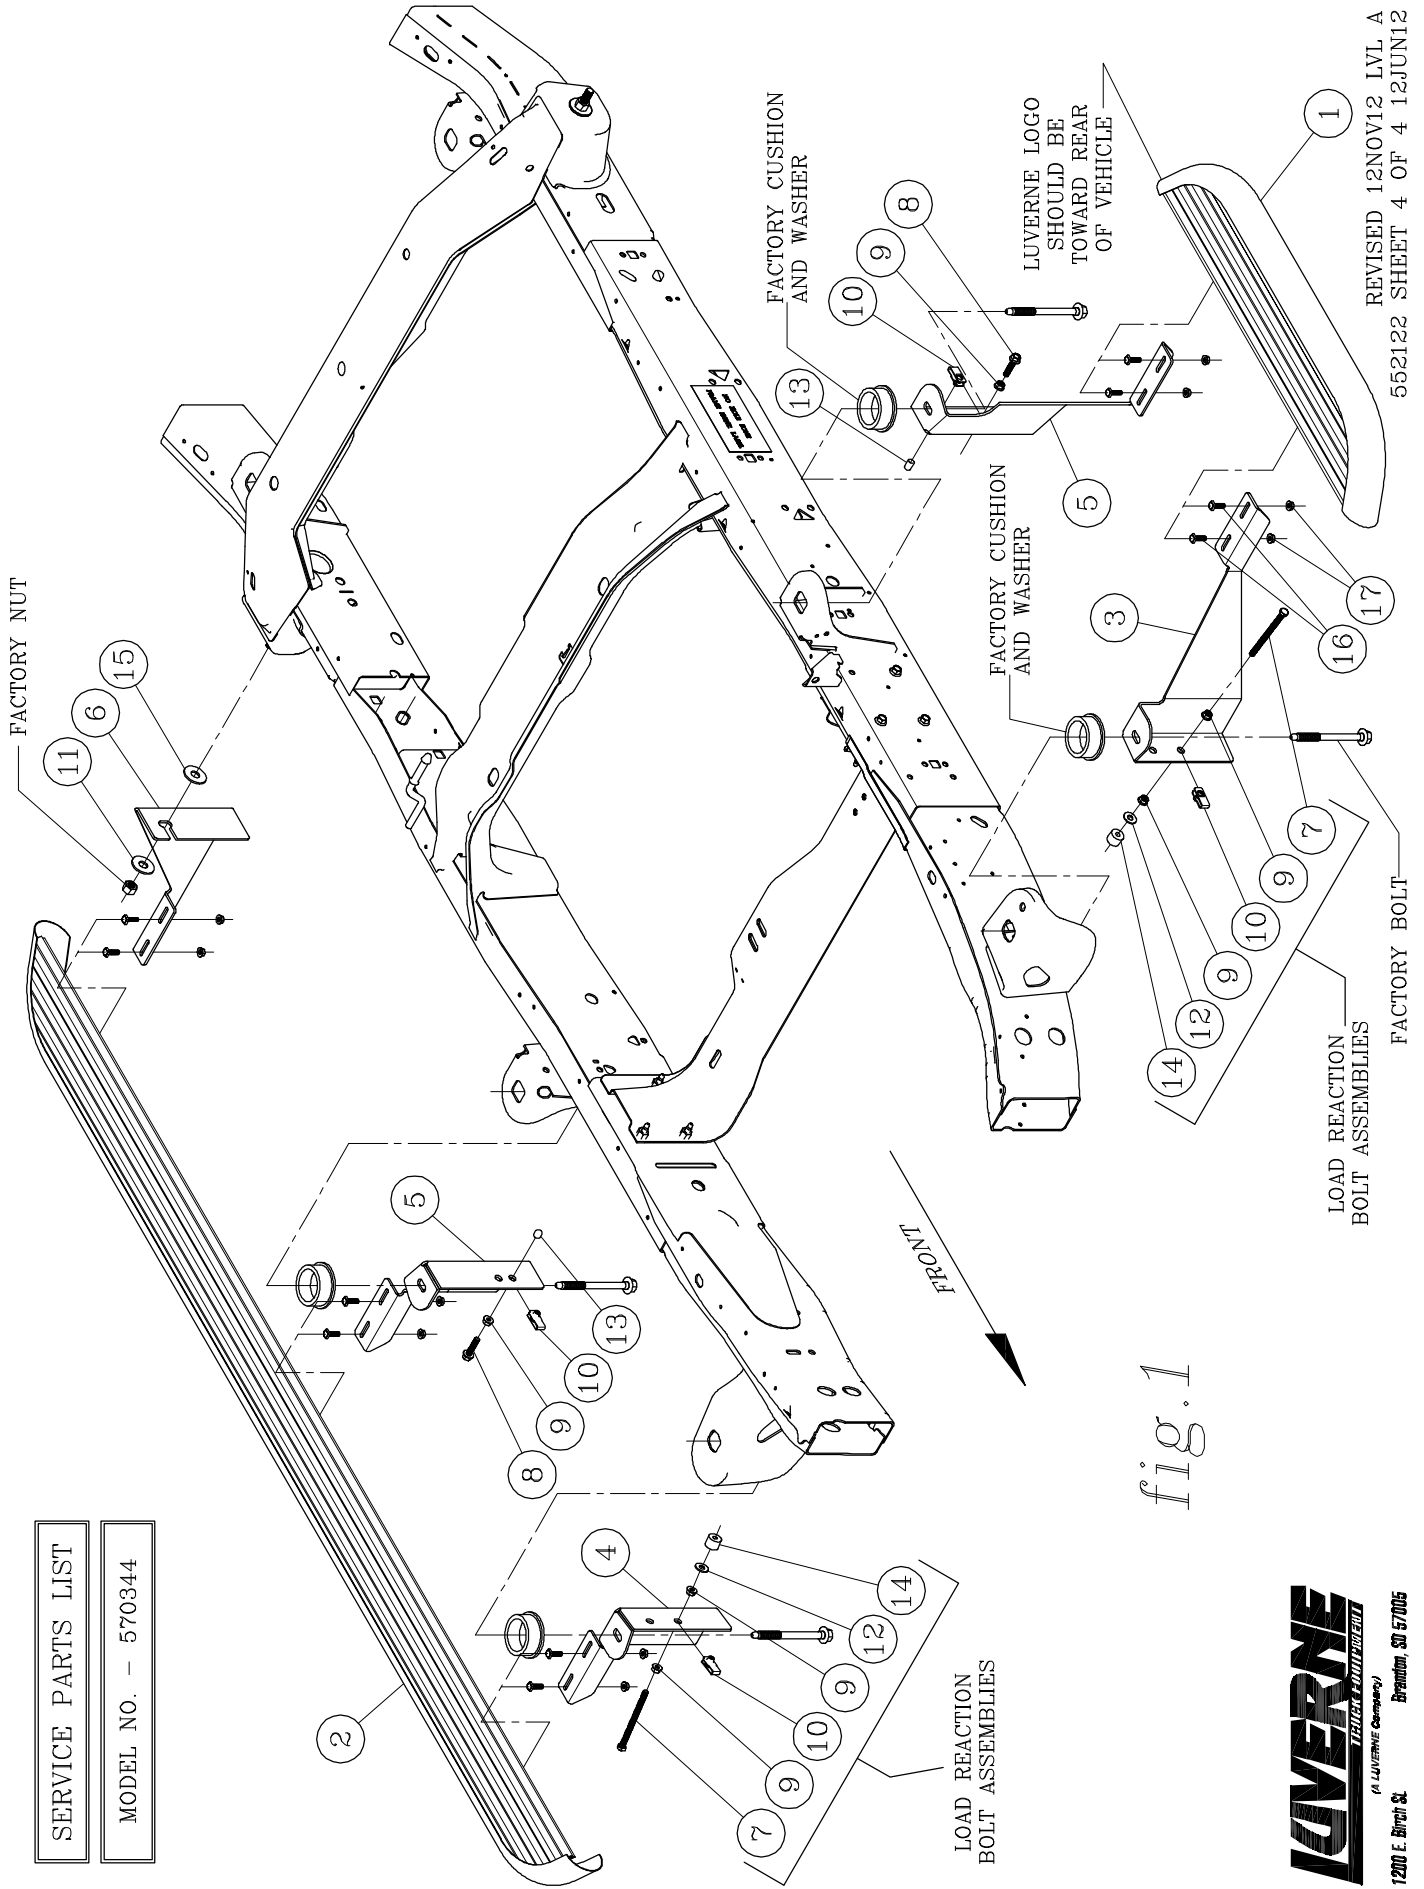

fig.1
4. INSTALL A 3/8"-16 SERRATED FLANGE NUT (ITEM #9) ON THE 3/8"-16 X 5" HEX BOLT (ITEM #7) WITH THE FLANGE FACING TOWARD THE END OF THE BOLT AND TURN ON JUST SHORT OF THE HEAD. SCREW THE BOLT INTO THE U-NUT AND WHEN IT COMES THROUGH THE OTHER SIDE START ANOTHER FLANGE NUT FACING THE AS THE FIRST NUT. TURN THE NUT ON UNTIL THERE IS 3/4" PROTRUDING FROM THE FACE OF THE NUT, INSTALL A 3/8" FLAT WASHER (ITEM #12) AND THE .354 X 1.00 X .748 RUBBER WASHER (ITEM #14) INTO THE END OF THE BOLT. ADJUST THE LOAD REACTION BOLT ASSEMBLY SO THAT THE RUBBER CUSHION IS SNUG AGAINST THE FRAME AND TIGHTEN DOWN THE OUTSIDE FLANGE NUT. **(LOAD REACTION BOLT ASSEMBLY)** AS SHOWN IN *fig. 1*.
8. INSTALL A 3/8"-16 SERRATED FLANGE NUT (ITEM #9) ON THE 3/8"-16 X 1-3/4" HEX BOLT (ITEM #8) WITH THE FLANGE FACING TOWARD THE END OF THE BOLT AND TURN ON JUST SHORT OF THE HEAD. SCREW THE BOLT INTO THE U-NUT AND WHEN IT COMES THROUGH THE OTHER SIDE ADJUST THE LOAD REACTION BOLT ASSEMBLY SO THAT THE RUBBER PLUG IS SNUG AGAINST THE FRAME AND TIGHTEN DOWN THE OUTSIDE FLANGE NUT. **(LOAD REACTION BOLT ASSEMBLY)** AS SHOWN IN *fig. 1*.
12. INSTALL A 3/8"-16 SERRATED FLANGE NUT (ITEM #9) ON THE 3/8"-16 X 5" HEX BOLT (ITEM #7) WITH THE FLANGE FACING TOWARD THE END OF THE BOLT AND TURN ON JUST SHORT OF THE HEAD. SCREW THE BOLT INTO THE U-NUT AND WHEN IT COMES THROUGH THE OTHER SIDE START ANOTHER FLANGE NUT FACING THE AS THE FIRST NUT. TURN THE NUT ON UNTIL THERE IS 3/4" PROTRUDING FROM THE FACE OF THE NUT, INSTALL A 3/8" FLAT WASHER (ITEM #12) AND THE .354 X 1.00 X .748 RUBBER WASHER (ITEM #14) INTO THE END OF THE BOLT. ADJUST THE LOAD REACTION BOLT ASSEMBLY SO THAT THE RUBBER CUSHION IS SNUG AGAINST THE FRAME AND TIGHTEN DOWN THE OUTSIDE FLANGE NUT. **(LOAD REACTION BOLT ASSEMBLY)** AS SHOWN IN *fig. 1*.
16. INSTALL A 3/8"-16 SERRATED FLANGE NUT (ITEM #9) ON THE 3/8"-16 X 1-3/4" HEX BOLT (ITEM #8) WITH THE FLANGE FACING TOWARD THE END OF THE BOLT AND TURN ON JUST SHORT OF THE HEAD. SCREW THE BOLT INTO THE U-NUT AND WHEN IT COMES THROUGH THE OTHER SIDE ADJUST THE LOAD REACTION BOLT ASSEMBLY SO THAT THE RUBBER PLUG IS SNUG AGAINST THE FRAME AND TIGHTEN DOWN THE OUTSIDE FLANGE NUT. **(LOAD REACTION BOLT ASSEMBLY)** AS SHOWN IN *fig. 1*.